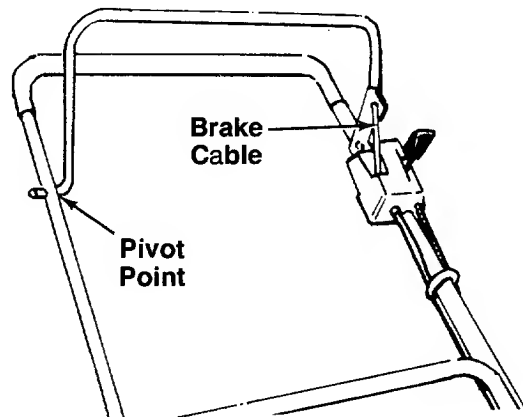

FIGURE 24.
**Blade Control**—Lubricate the pivot points on the blade control handle and the brake cable at least once a season with light oil. See figure 24. The blade control must operate freely in both directions.